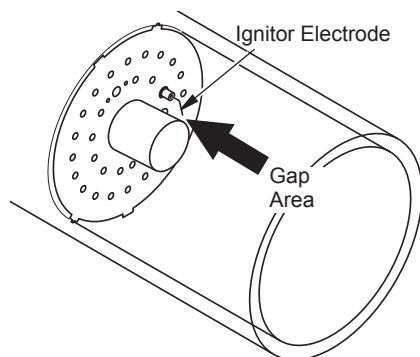

Figure 12 - Clearance Between Ignitor Electrode and Burner
7. Set gap between ignitor electrode and burner to 0.17" (43.18 cm) (see Figure 12).